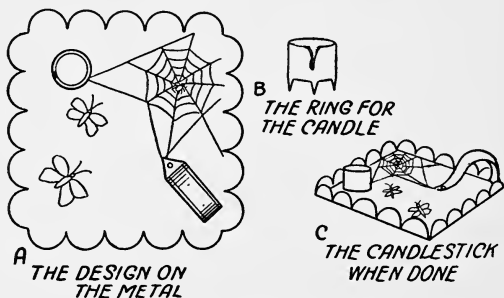

FIG. 36. A REPOUSSÉ CANDLESTICK
**How to Make a Flat Candlestick.**—This is a good piece of work for you to start with because it is at once simple, artistic and more or less useful. To make it, cut out a sheet of brass  $6\frac{1}{2}$  inches square and draw a spider and his web and a poor little fly or two making a bee-line for it as shown at A in Fig. 36.